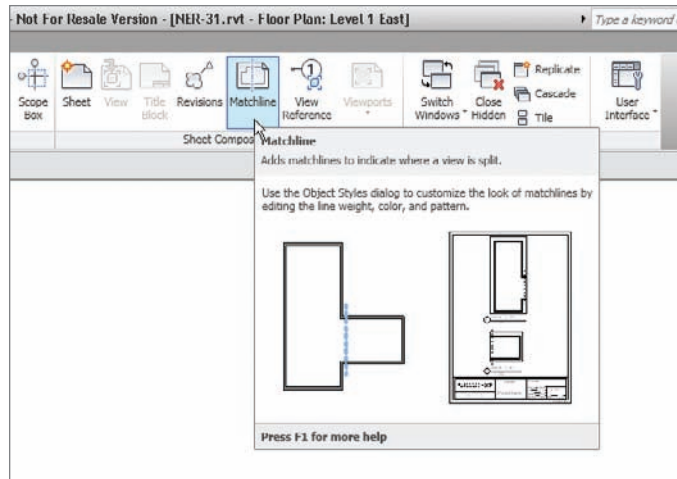

FIGURE 13.9 The Match Line button on the View tab
2. On the Sheet Composition panel of the View tab, click the Match Line button, as shown in Figure 13.9.